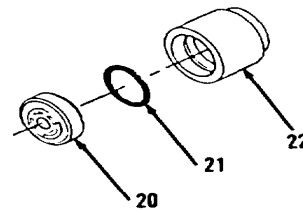

Figure 3-144.
14. Remove two bolts (7) from housing (33).
15. Remove cover (14), preformed packings (15 and 16), valve (17) and spring (18). Discard preformed packings (15 and 16).
16. Remove washer (19).
17. Remove items 20 thru 22 as an assembly.
18. Remove valve (20) from inside piston (22, Figure 3-144).
19. Remove preformed packing (21) from valve (20). Discard preformed packing (21).